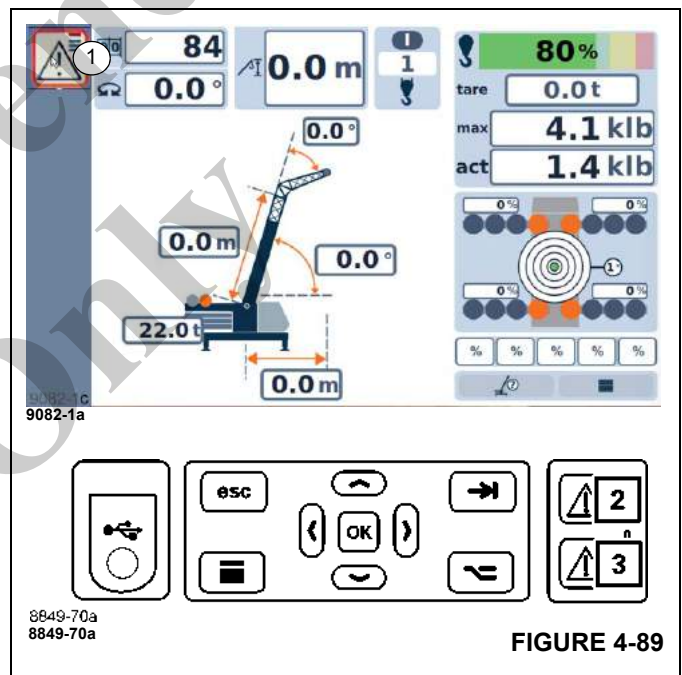

FIGURE 4-89
- The (1), (Figure 4-89) symbol is displayed in the display area.
- Lamps (2), (Figure 4-89) and (3), (Figure 4-89) light up.